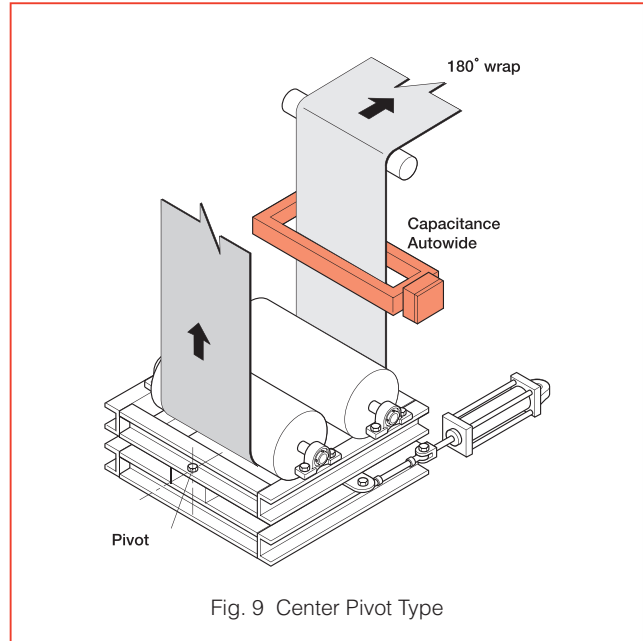

Fig. 9 Center Pivot Type
**(1) Center-pivot type guiding system(See Figs.9 and 10)**
As shown in Figs.9 and 10, the center pivot type can set the rotation center at the center point of the plane at the entry roll of the steering roll assembly. This type of steering roll is used for a strip made of a material which could be torn and/or deformed permanently when a difference in tension between both strip edges occurs.